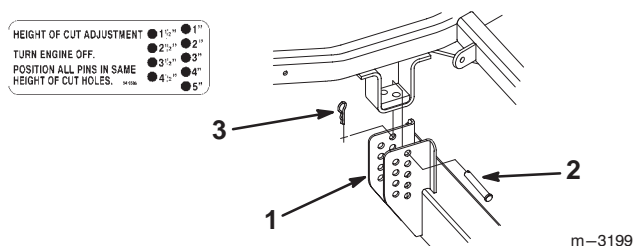

Figure 17
1. To adjust, remove hairpin cotter and clevis pin from mower hanger bracket (Fig. 17).
2. Select hole in mower hanger bracket corresponding to the height-of-cut desired. Lift on side and front handles to align holes and insert clevis pin (Fig. 17).
3. Secure clevis pin with hairpin cotter (Fig. 17).